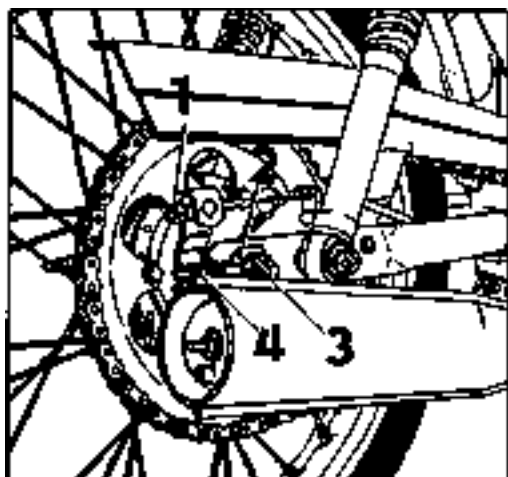
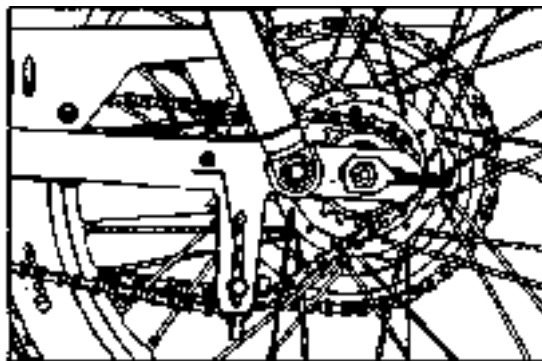

Fig.18 — Adjusting of rear brake and engine drive transmission chain
Fig.19 — Adjusting of pedal drive transmission chain
For adjusting the rear brake use the adjusting nut (1), Fig. 18. If this is no longer adjustable by set screw on the handlebars re-set the brake toggle on the splined shaft. The rear brake can then again be adjusted by means of the adjusting nut (1) Fig.18. After adjusting the brakes check whether they are not too tight. With the moped resting on its stand, spin the wheels and check for free rotation.
To take up the tension of the chain from the engine, first loosen the nut of the rear wheel spindle (Pos. No. 3, Fig.18). Now adjust the chain by tightening the nuts (4) of the chain tensioner (2) on either side of the frame. The sag of the chain when compressed midway with the fingers must be about 15 mm. After tensioning, check the alignment of the track of both wheels with the aid of a perfectly straight lath, and then firmly retighten the spindle nut. The tension of the chain from the pedals can be adjusted by means of the tension pulley (a) on the left-hand side of the moped (Fig.19).